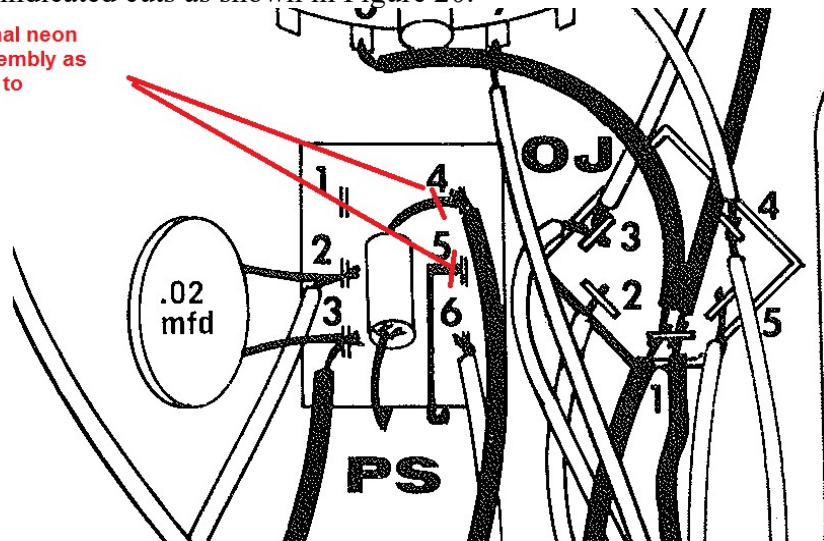

Figure 20-Cut two wires to allow the NE-2 lamp to be removed
1. Make the indicated cuts as shown in Figure 20.